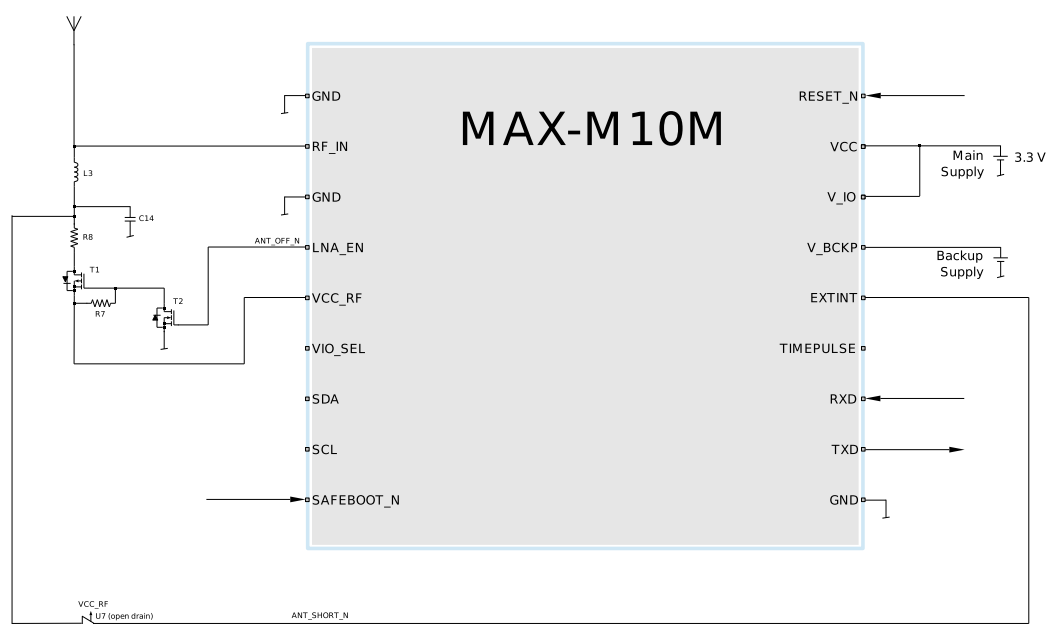
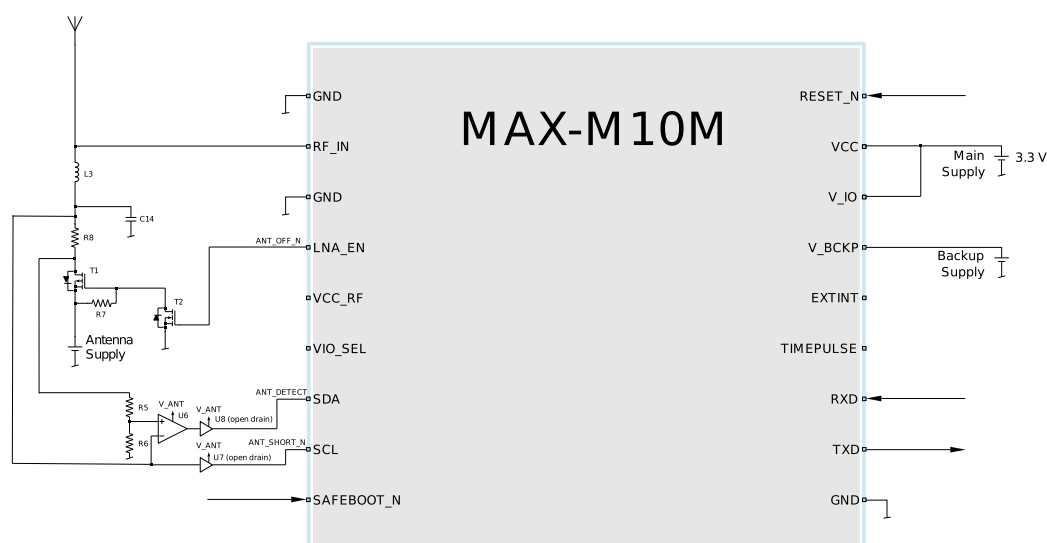

Figure 37: 2-pin antenna supervisor design
Figure 38: 3-pin antenna supervisor design
- This design uses an active antenna, which can be supplied either with the VCC_RF output from MAX-M10M-00B, as shown in Figure 37, or from an external supply, as shown in Figure 38. It is also possible to use a passive antenna in the design. Only use a good quality passive antenna to avoid performance degradation compared to an active antenna setup.
Figure 37 and Figure 38 show a reference design for a 2-pin and 3-pin antenna supervisor design respectively. Here are the key features:
- UART and I2C communication interfaces are available. I2C PIOs (SDA and SCL) can be used in a 3-pin antenna supervisor design as shown in Figure 38. In this case, the I2C interface needs to be disabled before assigning the new function to the PIOs.
Table 49 lists the configuration settings required for the 2-pin antenna supervisor reference design given in Figure 37.
Table 50 lists the configuration settings required for the 3-pin antenna supervisor reference design given in Figure 38.